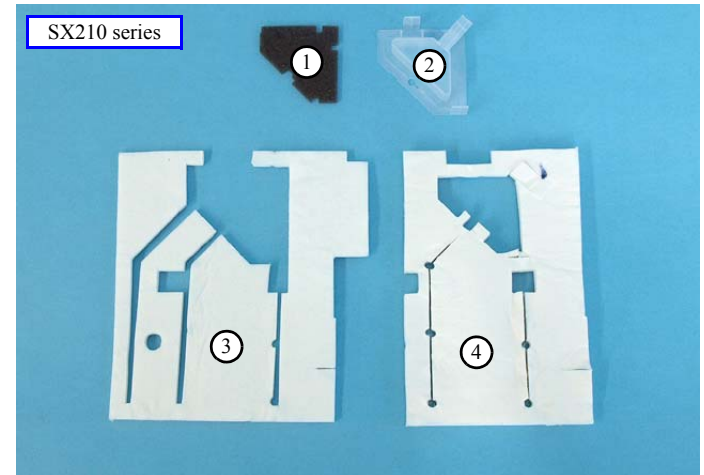

Figure 4-113. Installing the Waste Ink Pads (SX210 series)
- SX210 series: see Figure 4-113.